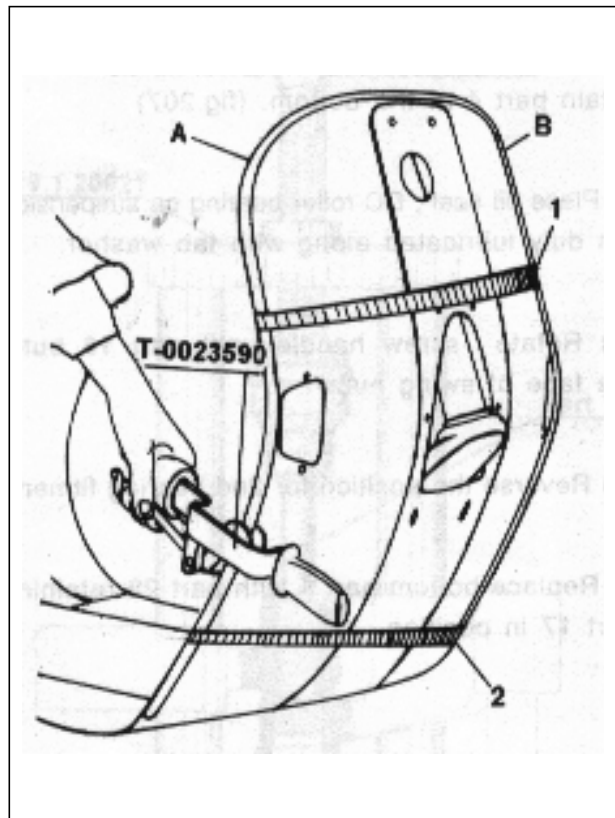

Fig. 209-Fitting of wind shield beading
- (c) Roll the tool T 0023590 on beading from point 'B' to 'A'. (fig.209)